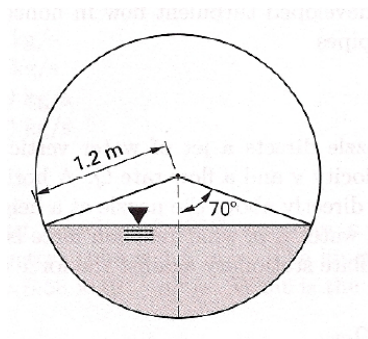

Figure 1: Circular channel flowing partially full.
5. (11 pts.) A pipe with a diameter of 2.4 meters is depicted in Figure 1. The pipe is flowing partially full.